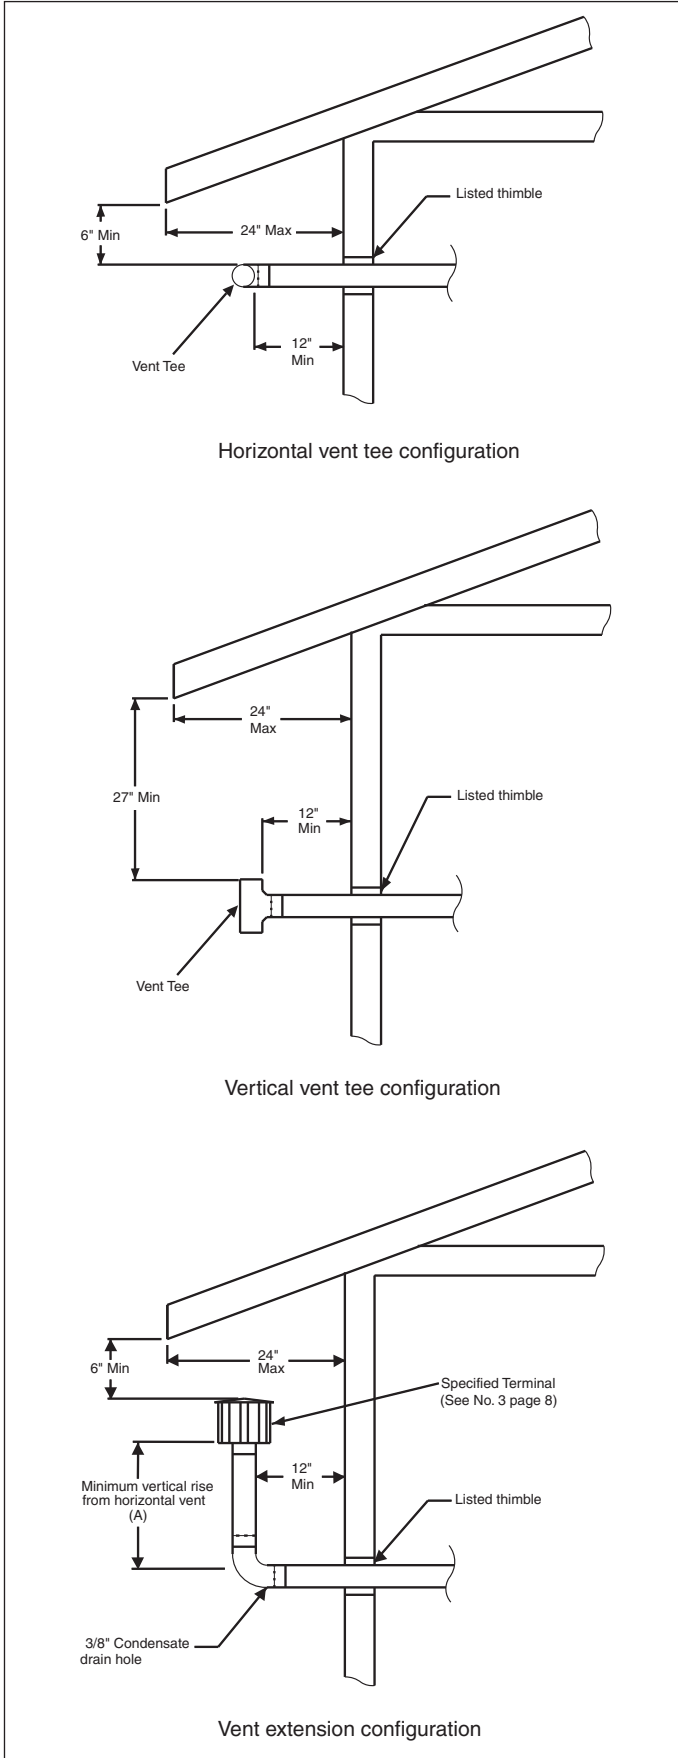

Figure 9.2
4. When vented horizontally, maintain a 1/4" per foot rise away from the heater. Place a drain tee and clean out near the vent connector. See Figures 8.1 and 9.3. Where local authorities have jurisdiction, a 1/4" per foot downward slope is acceptable. The Condensate is allowed to drip out of the end when using a TEE terminal. See Figure 9.2. When using a vent cap with an extension, a 3/8" diameter hole is drilled in the low point of the vent by the installer exterior to the space to allow condensation drainage. See Figure 9.4.